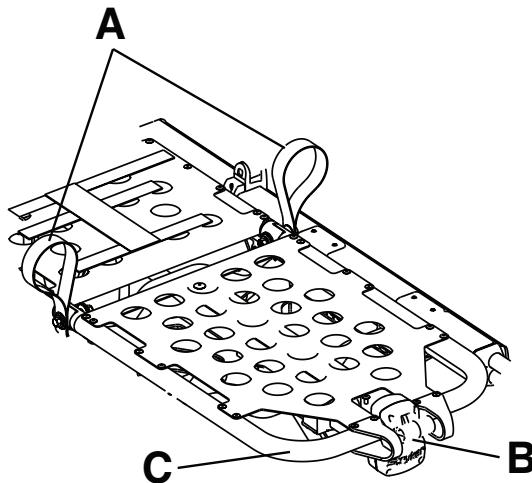

Figure 9 – Gatch
1. Lift either of the red lifting loops (A) until the knee Gatch is in the highest position (Figure 9).